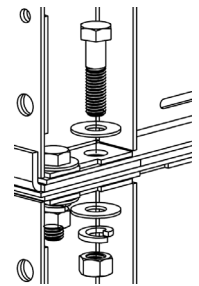

FIGURE 4
3. Move the next module into place and bolt together as shown in Figure 4. All 8 holes must be used in each module-to-module assembly. Torque bolts to 75 ft-lbs.